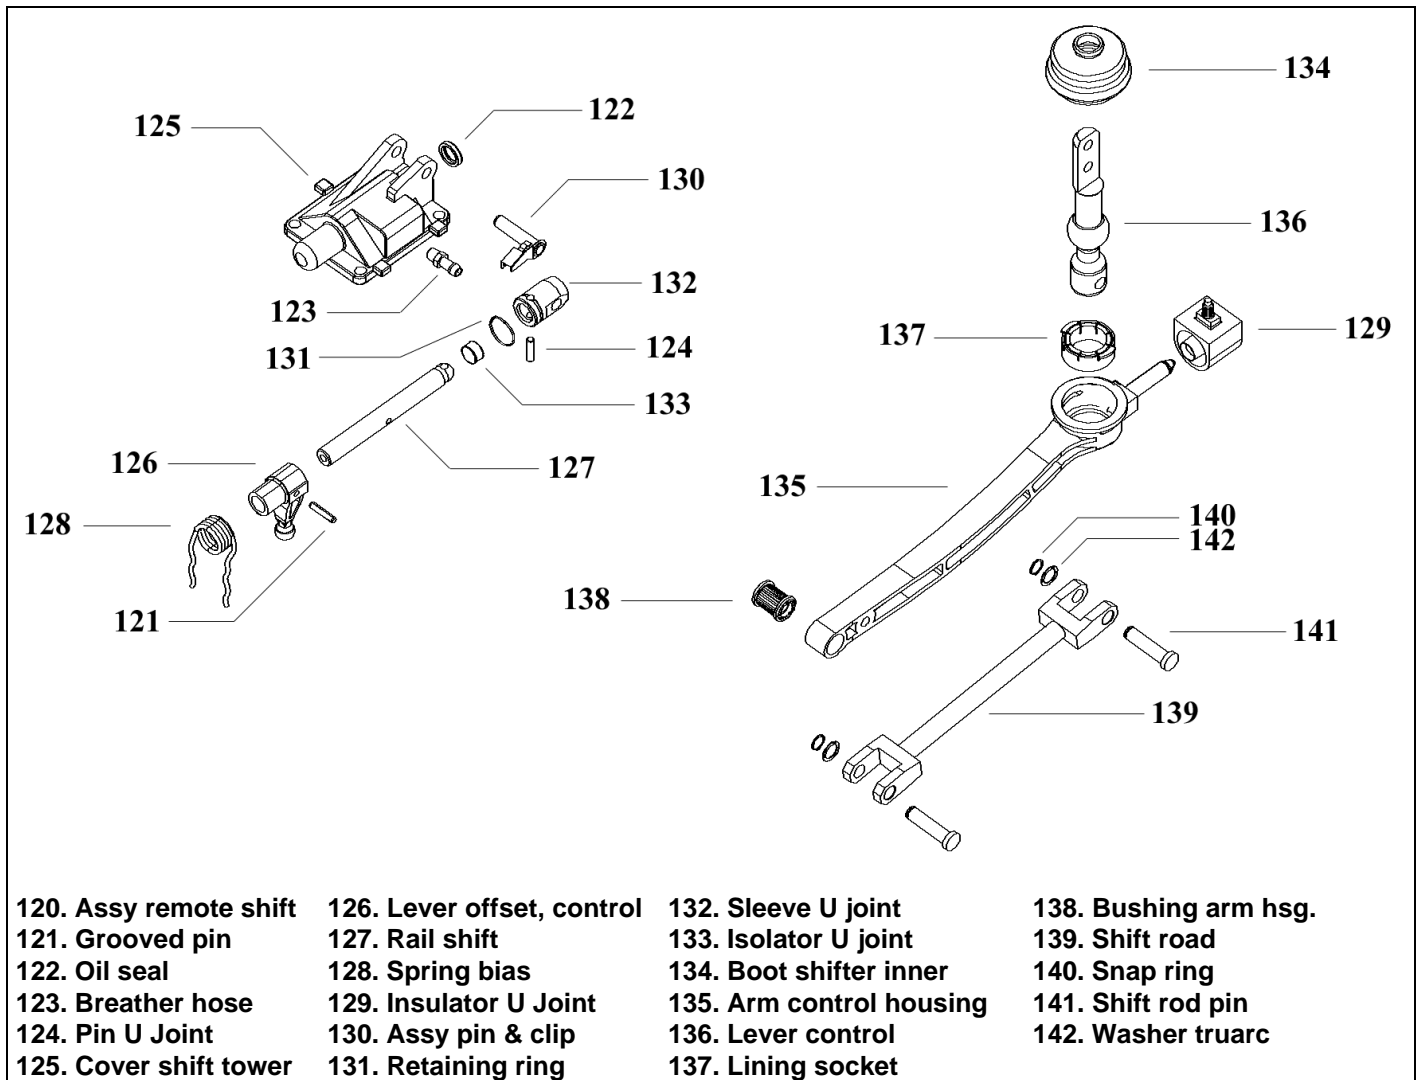

Figure 6-24. T5 WC Control Semi-Remote
**6-21. INSTALLATION OF T5 WC CONTROL SEMI-REMOTE.** This only applies to transmissions equipped with semi-remote control. Assemble the semi-remote control following these steps: (see figure 6-24)
- a. Install the breather hose (123) over the cover shift tower(125) and torque to 6-10 lb-ft ( Nm)
- b. Install the oil seal (122) over the cover shift tower verify that the seal adjusts properly.
- c. Aside install isolator (133) inside sleeve (132).
- d. Place the sleeve & isolator assembly over shift rail (127) press until the bushing and rail holes match and install the pin (124).
- e. Install snap ring (131) make sure it fits in the slot.
- f. Aside install spring (128) over the offset lever (126), manually rotate the spring, make sure the spring legs face are separated the farthest from the offset lever.
- g. On the previously greased cover holes, install the spring and offset lever assembly as well as the shift rail-bushing assembly and install pin (121) on the breather side.
- h. Install arm bushing (138) on the control housing arm (135) after doing this, install lining socket (137) previously greased install the control shift lever (136).
- i. Assemble the housing arm control kit to the cover assembly. Install the pin & clip ass'y (130). These should adjust properly.
- j. On the shift lever and install two pins (141) Make shure that shift lever flat side and the head pin face the breather side.